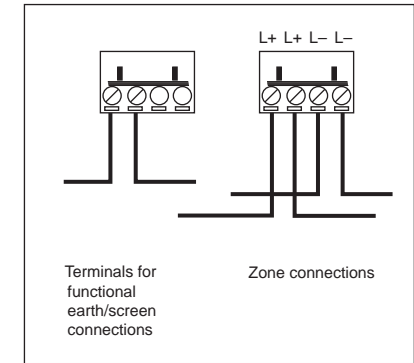

Fig 2 Terminal block connections
2. Run the cables into the backbox and connect them to the terminal blocks as shown in Fig 2. Ensure that functional earth/screen continuity is maintained. Screens should be connected to the yellow terminal block marked 1–4 on the black PCB cover.
4. Unlock the small front cover by inserting the forked key and pushing it home. Remove key, slide the cover down and remove the deformable element. Connect the terminal blocks as shown in Fig. 2, secure the call point to the backbox and refit the deformable element as required. Finally, replace the front cover in the reverse order in which it was removed and push it up until it locks.